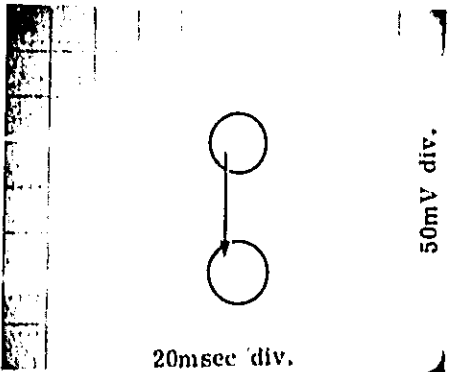

Figure 5-10. Waveform at A6TP2.
- i. Observe waveform A6TP2. Adjust A5C17 for flat waveform shown in Figure 5-10.